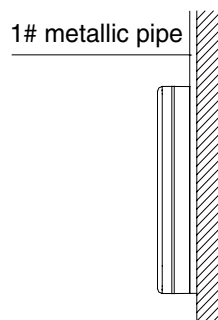
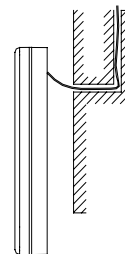

Fig.9.17 Surface Mounting of Cable
Fig.9.18 Concealed mounting of Cable
4. If the control wire between the wired controller (85×85×16) and the indoor unit is surface-mounted, use 1# metallic pipe and make matching recess in the wall (refer to Fig. 9.17). If concealed installation is adopted, mount as Fig. 9.18.